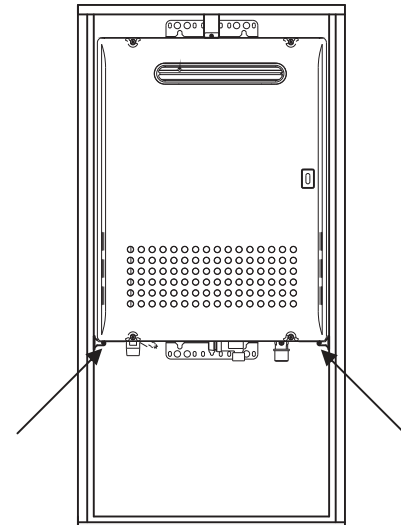

Figure 4: Location of lower mounting brackets.
- Finally, install the 2 remaining mounting screws in the lower recess box brackets and tighten all 3 screws to secure the heater (see Figure 4).